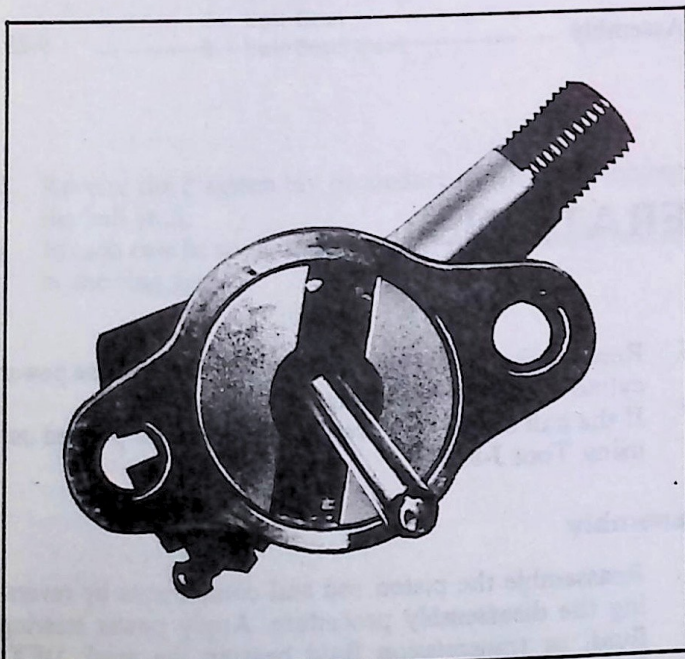

Fig. 72—Proper Key Installation
6. Insert the key, making sure that the small tangs on the ends of the key fit into the notches in the sleeve (fig. 72).